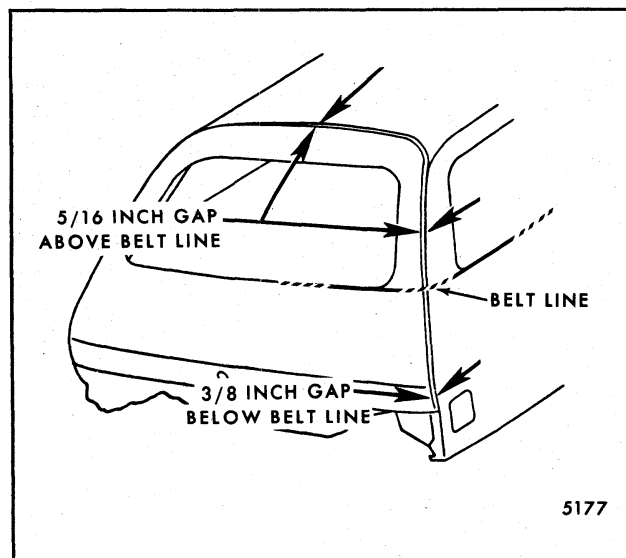

Fig. 7-103-Tailgate Alignment
8. Check tailgate position in opening. If further adjustment is required, repeat preceding steps (Fig. 7-103).
4. Securely tighten striker bolt and close gate to check alignment. Repeat preceding steps if required (Fig. 7-103).